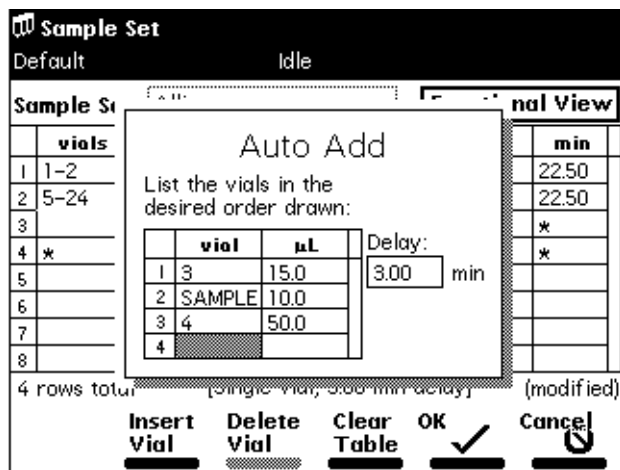

Figure 6-18 Auto Add Dialog Box
1. Select **AutoAdd** from the drop-down list of functions, then press the **Row Details** screen key to display the Auto Add dialog box (Figure 6-18).
In the Figure 6-18 example, vials 3 and 4 are “reagents” that react with compounds in the sample vial. In Figure 6-19, vials 25 to 30 are the *sample* vials used for the Auto Add. The Separations Module draws 15 μL from vial 3, 10 μL from vial 25, 50 μL from vial 4, then holds the three aliquots in the sample loop for the specified 3.00 minutes before making the injection. The process is repeated for vials 26 to 30.